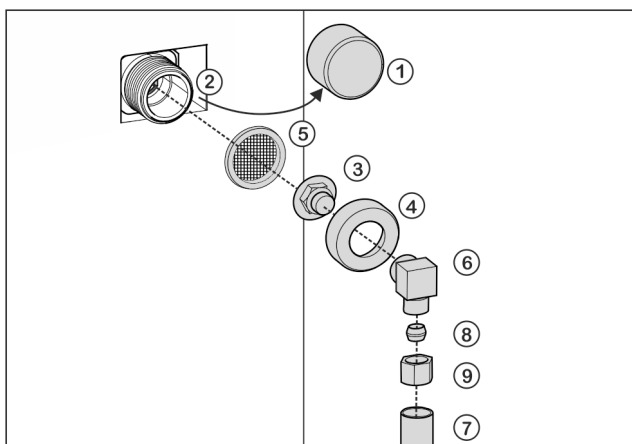

Fig. 58
- Remove cap Fig. 58 (1) from solenoid valve Fig. 58 (2).
- Insert coupler Fig. 58 (3) into union nut Fig. 58 (4).
- Insert the filter Fig. 58 (5) with the recess pointing down towards the coupler Fig. 58 (3).
- Screw the union nut Fig. 58 (4) by hand onto the thread of the solenoid valve Fig. 58 (2) until it is firmly in place.
- Screw on angle piece Fig. 58 (6).
- Connect the water pipe Fig. 58 (7) (e. g. 1/4" OD copper pipe) with the clamp ring Fig. 58 (8) and nut Fig. 58 (9) to the elbow connector Fig. 58 (6).
- If necessary: Fasten the water pipe Fig. 58 (7) to the housing with the guide clip.
- Put angle piece Fig. 58 (6) to one side.
- Connect the water pipe Fig. 58 (7) (e. g. 1/4" OD copper pipe) with the clamp ring Fig. 58 (8) and nut Fig. 58 (9) to the coupler Fig. 58 (3).